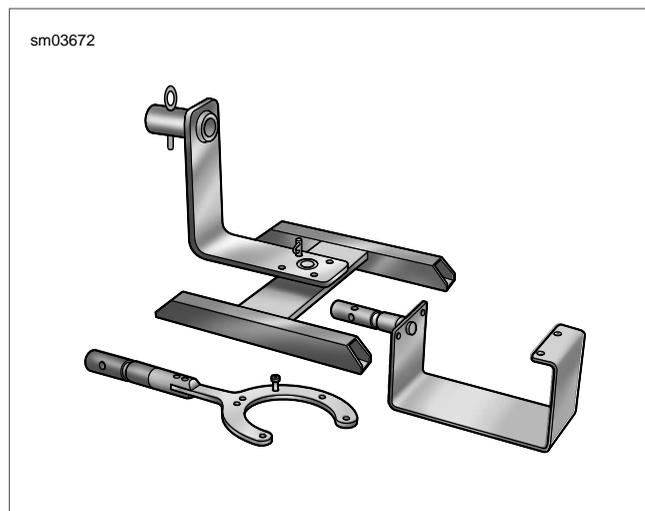

Figure 3-11. Engine/Transmission Bench Stand (HD-42310)
24. Using the TWIN CAM 88 CRADLE (Part No. HD-42310-2), install engine in BENCH STAND (Part No. HD-42310) or ROLLING STAND (Part No. HD-43646A). See Figure 3-11.